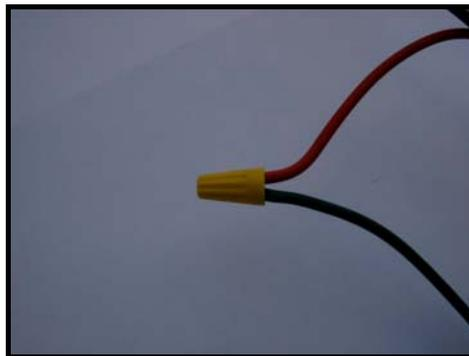

Figure 28: Connection of the Wires from the TereScope 1 to the Heating Power Supply Connector
- c. Connect each power supply output wire to one cable wire using the wire-nuts provided as shown in *Figure 28*.